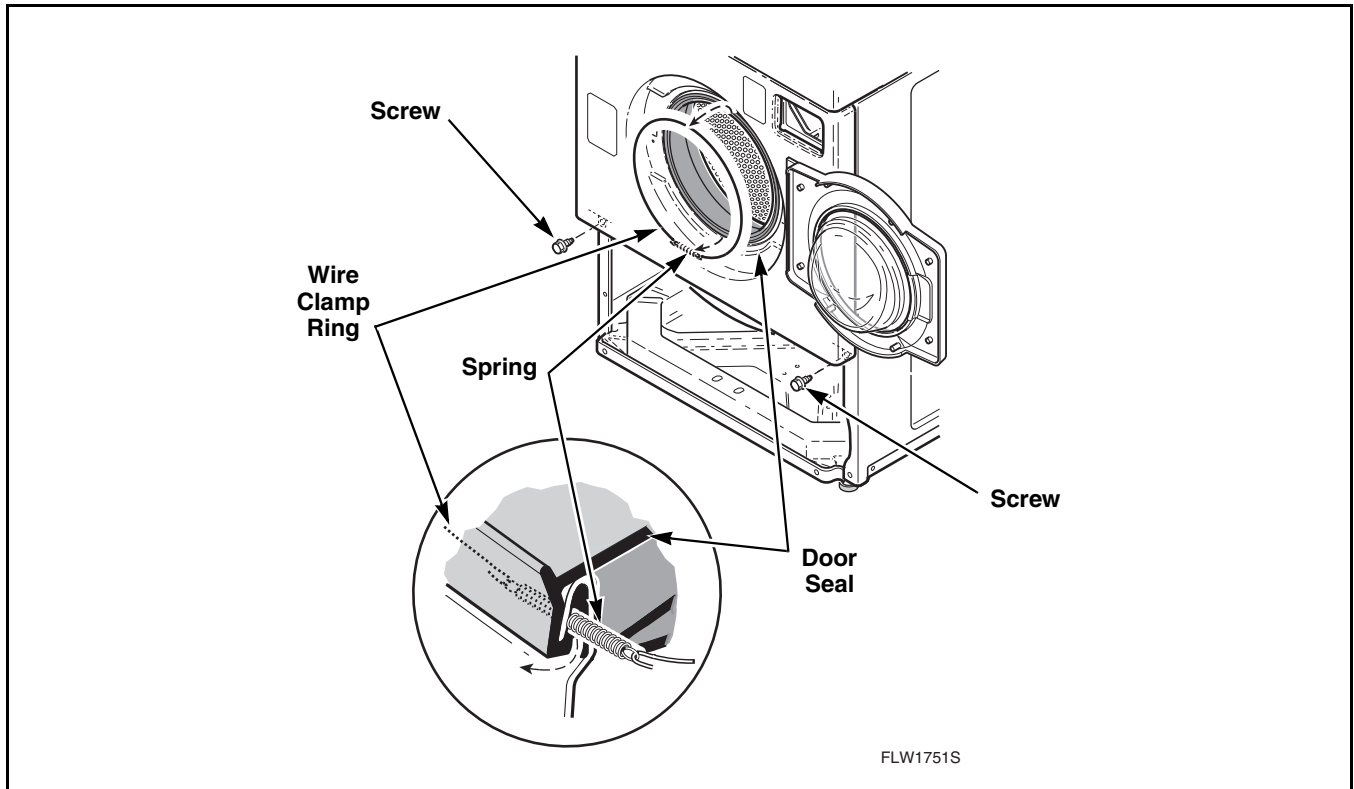

Figure 16
- a. Open loading door. Carefully remove wire clamp ring from groove with small flat screwdriver. Spring is in 6 o'clock position. Refer to *Figure 16*.
- b. Open loading door. Carefully remove wire clamp ring from groove with small flat screwdriver. Spring is in 6 o'clock position. Refer to *Figure 16*.
- b. Carefully remove wire clamp ring from groove with small flat screwdriver. Spring is located in the 6 o'clock position. Refer to *Figure 16*.
- b. Carefully remove wire clamp ring from groove with small flat blade screwdriver. Spring is located in the 6 o'clock position. Refer to *Figure 16*.